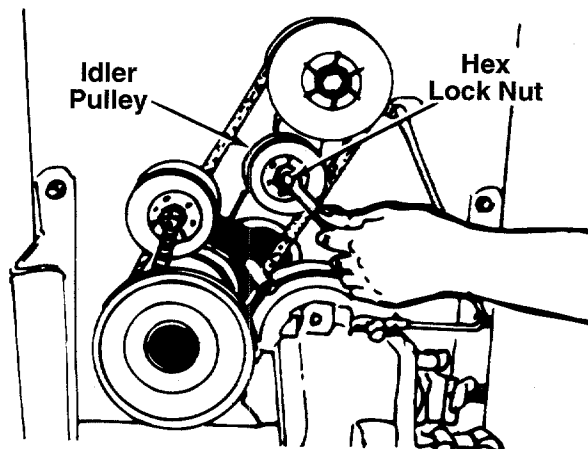

FIGURE 34.
8. Remove the idler pulley by removing the hex lock nut. See figure 34.